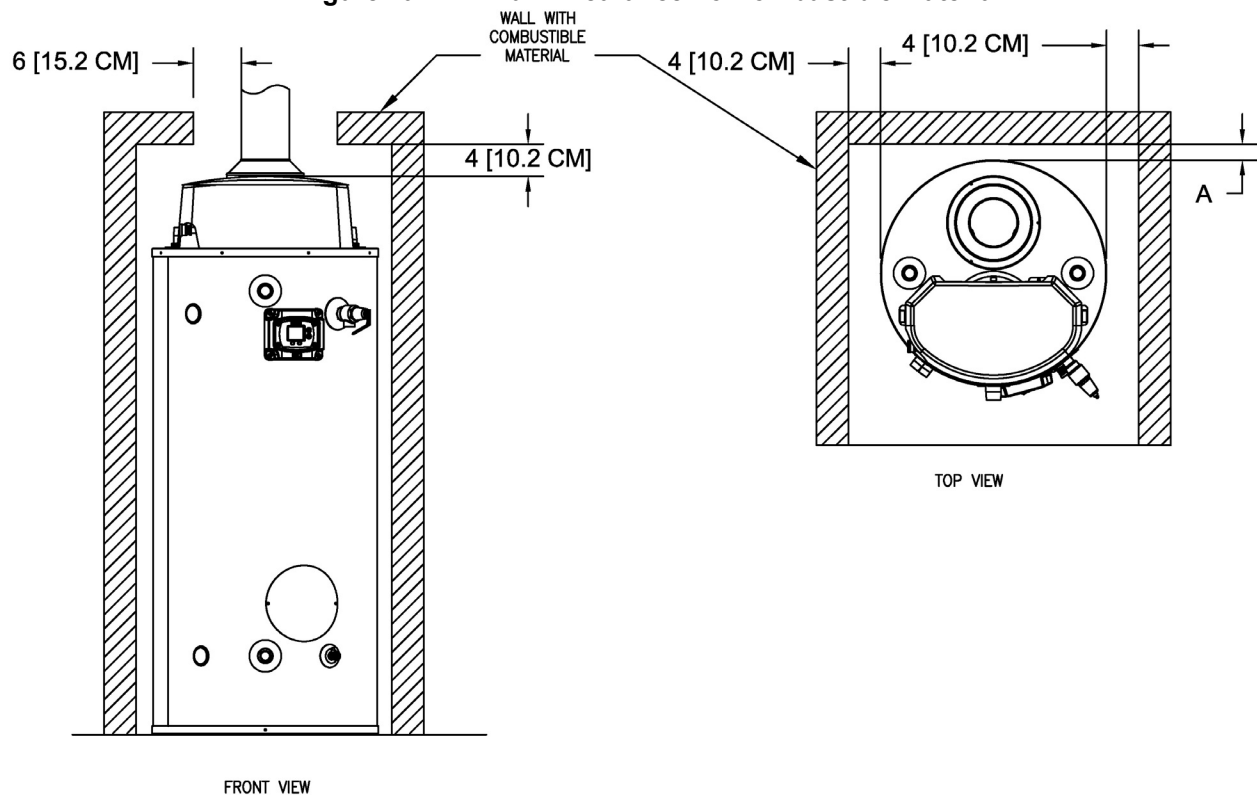

Figure 2b. Recommended Minimum Clearances For Service Access.
5. It is recommended that minimum clearances shown in figure 2b be provided on the sides and top of the water heater for servicing and maintenance of the water heater.